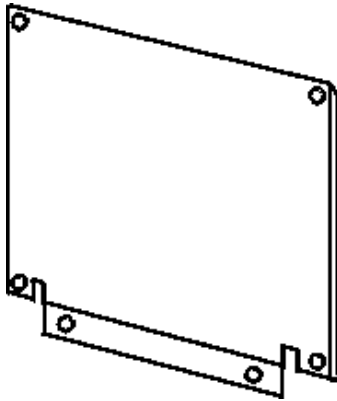
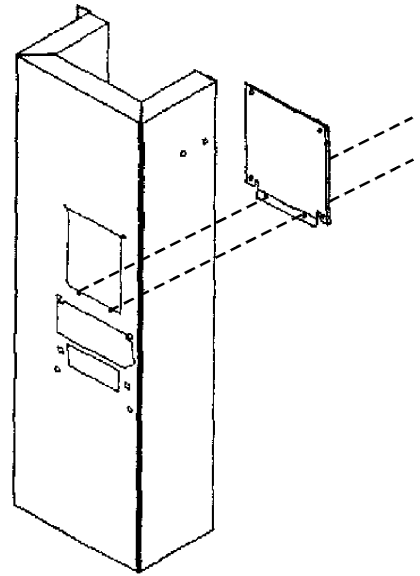

FIGURE 2
FIGURE 4
4. Install the validator backup plate (see figure 2 below) by placing the plate over the six pem studs you removed the nuts from in steps 2 and 3. (See figure 4, page 3.)